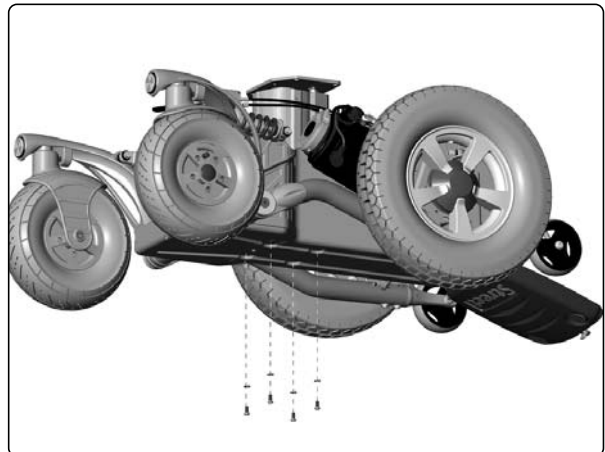

Fig. 56. Seat elevator's lower attachment screws.
5. Remove the seat elevator's four lower attachment screws on the bottom of the chassis; see figure 56.